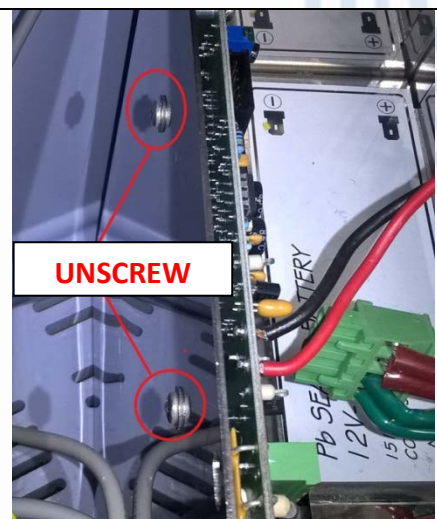

Fig. 13
15. Using a PH1 screwdriver, unscrew charge board mounting screws (located on the back side of the PSU) (**Fig. 13**). Remove the charge board, and **discard the charge board according to your facility policies**.